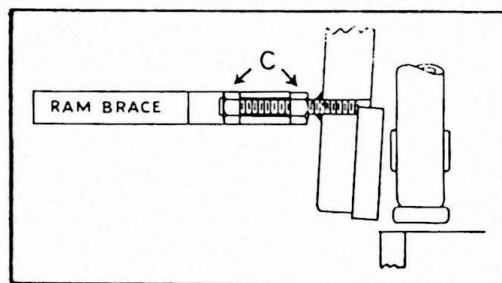

Fig. 22. Ram Brace Adjustment
5. Lower the ram again; then check the clearance at each holddown. The clearance should diminish as you approach the center where it should be about .008". If the clearance varies too much, realign the ram by means of the adjusting nuts, "C", Fig. 22.
6. The stiff ram brace controls the alignment of the ram by means of studs and nuts. By loosening one nut, "C" Fig. 22, and tightening the other you can move the ram the desired amount. One man should check the clearance while the other stands on the table and uses the long handled wrench to adjust the nuts, Fig. 20. Use a long wrench to adjust the nuts. Use a short wrench when necessary. Do not stand on the ram brace. After making each adjustment be sure that both nuts are tight.